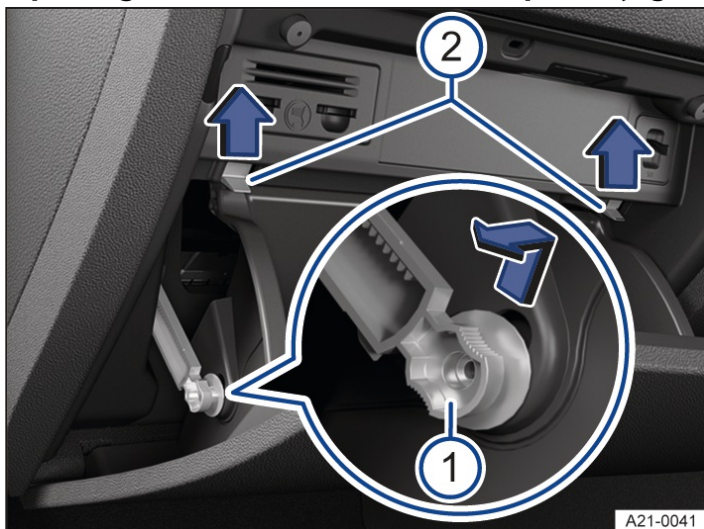

Fig. 2 In the dash panel on the front passenger side: fuse box cover in the dash panel (right-hand drive vehicle)
2. Push restrictor upwards into the opening of the holder and pull out to the side in the direction of the arrow → Fig. 2 ¹.
3. Push catches upwards in the direction of the arrow at the same time open the glove box further → Fig. 2 ².
2. Insert the restrictor into the opening in the holder and slide upwards in the opposite direction to the arrow until it engages → Fig. 2 ¹.
3. Carefully push the glove box forwards past the resistance of the catches → Fig. 2 ².